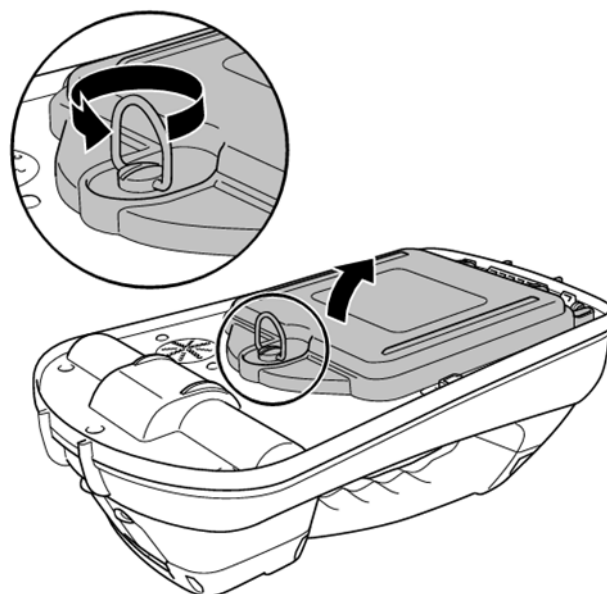

Figure 4.4: Opening the battery compartment
- 4 Line up the battery pack clips with the corresponding recesses on the transmitter body and press into place (fig 4.4)